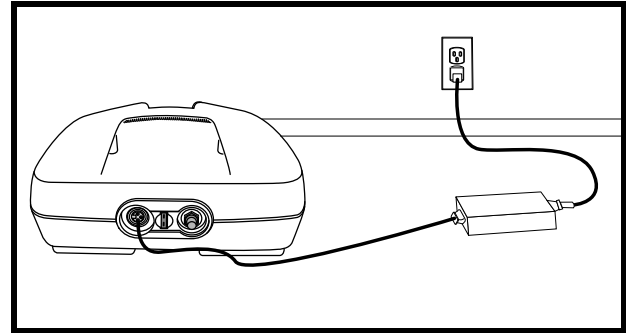

Figure 17. Charging The Batteries (Battery Pack Removed)
1. Position your Travel Scooter or battery pack close to a standard electrical outlet. See figures 17 and 17A.